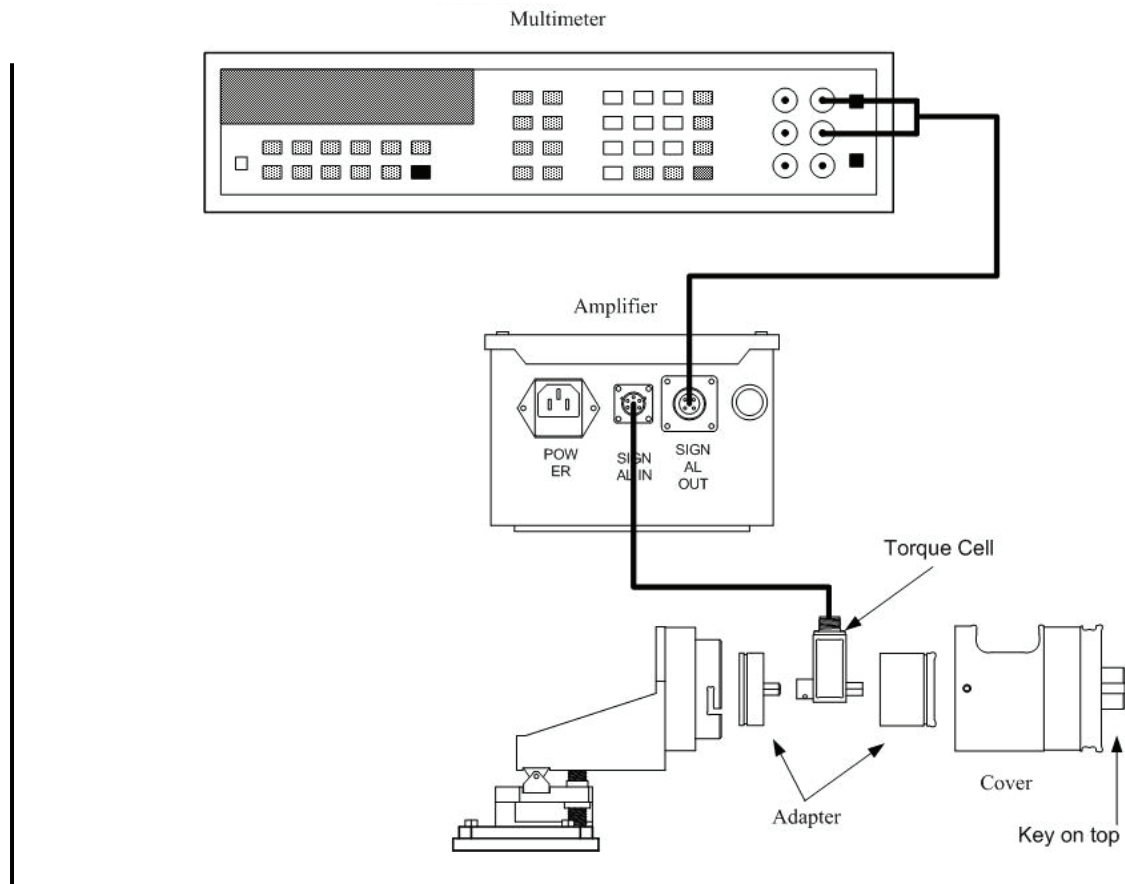

Figure 1. Electrical connection configuration.
- d. Connect equipment as illustrated in figure 1.
- e. Select load cell to be tested and install into the horizontal calibration fixture as illustrated in figure 1.
(1) Select the load cell to be calibrated and install into the horizontal calibration fixture as illustrated in figure 1.
(2) Attach appropriate calibrator arm for load cell being calibrated. Calibration arm 6" for 5, 20, and 100 lb load cells and 48" for the 500 and 1000 lb load cells.